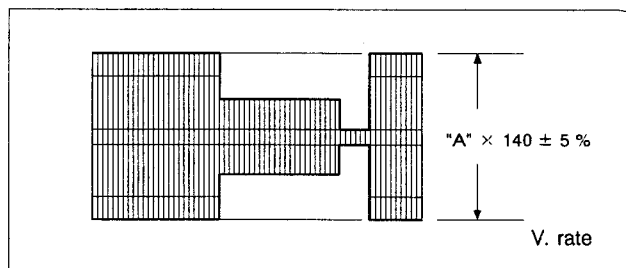

Fig. 3-1-19 SP REC color level
- 6) Adjust R51 repeatedly in recording so that the higher channel level is "A" × 140 ± 5 % in playback, as in Fig. 3-1-19.